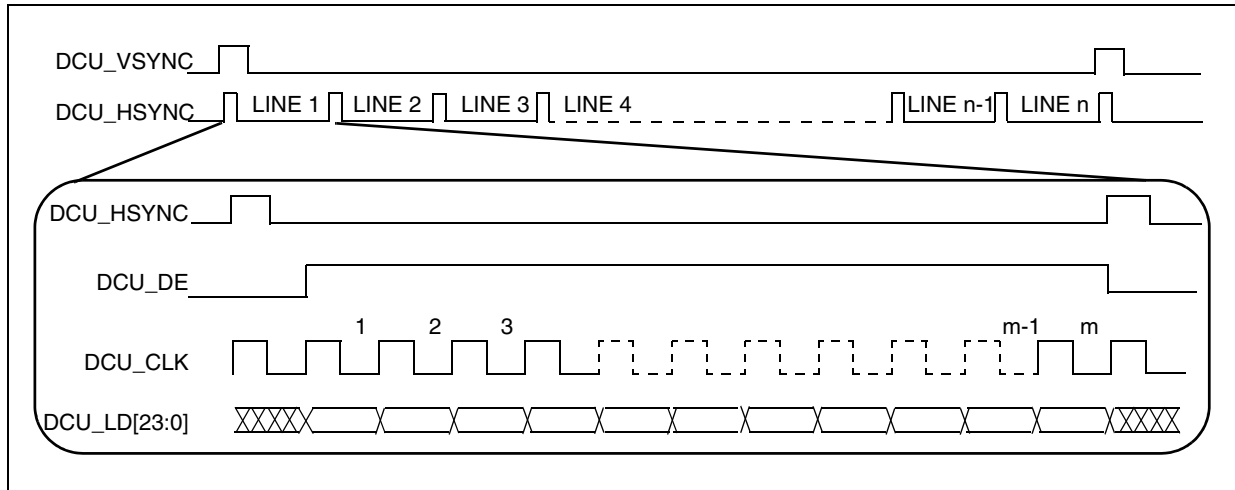

Figure 31. TFT LCD interface timing overview¹
Figure 31 depicts the LCD interface timing for a generic active matrix color TFT panel. In this figure signals are shown with positive polarity. The sequence of events for active matrix interface timing is:
1. In Figure 31, the “DCU_LD[23:0]” signal is an aggregation of the DCU’s RGB signals—DCU_R[0:7], DCU_G[0:7] and DCU_B[0:7].